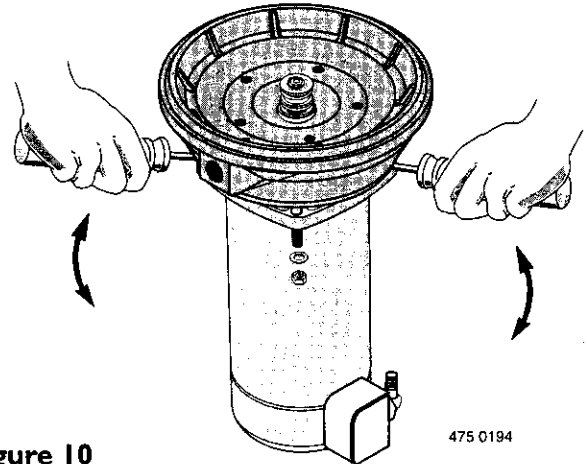

Figure 10
3. Remove pump back half from motor by unscrewing four (4) nuts. Pry back half off motor by inserting two (2) screwdrivers between the back pump half and the motor flange. This will force rotating portion of seal off shaft. See Figure 10.